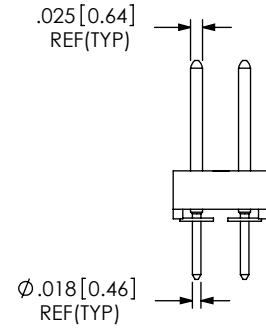

FIG 7
- (1) WITH -RA or -RE OPTION
- (2) OMIT WITH -Q ROW SPECIFICATION
- (3) NOT AVAILABLE IN -RA OR -RE OPTION.
- (4) NOT AVAILABLE IN -RE OPTION.
- (5) AVAILABLE IN -LL OPTION.
- (6) AVAILABLE IN -LA OPTION.
- (7) ON STYLE -08 -RA & -LA OPTIONS ONLY; 'C' = .230+.005/-.008 [5.84+.13/-.20]
- *SQUARE END OF PIN(T-1RS7-01-XXX-2)SHOULD BE LOCATED AT "C" DIMENSION DURING FILL PROCESS. (SEE FIG 7)